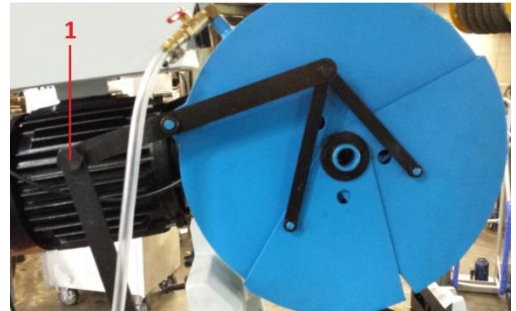

Fig. 13
1. Remove the bolt (1, fig.13) to release the bracket.